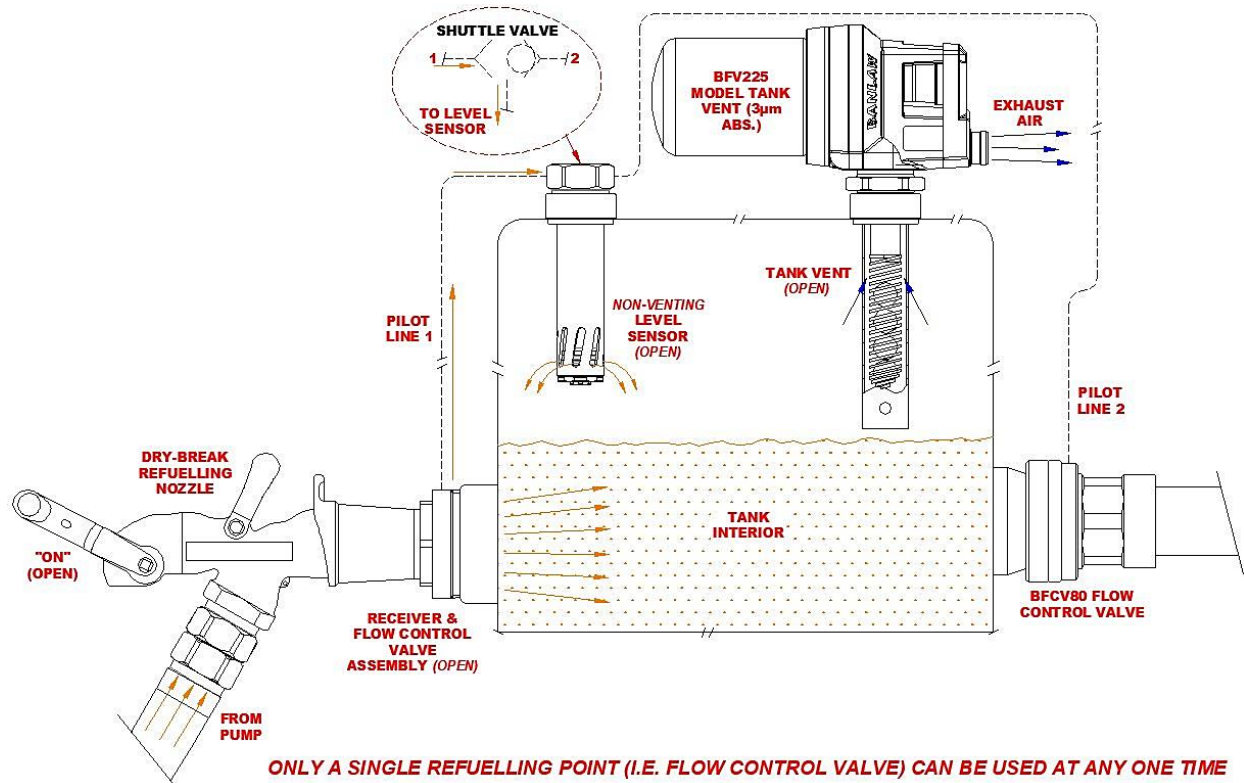
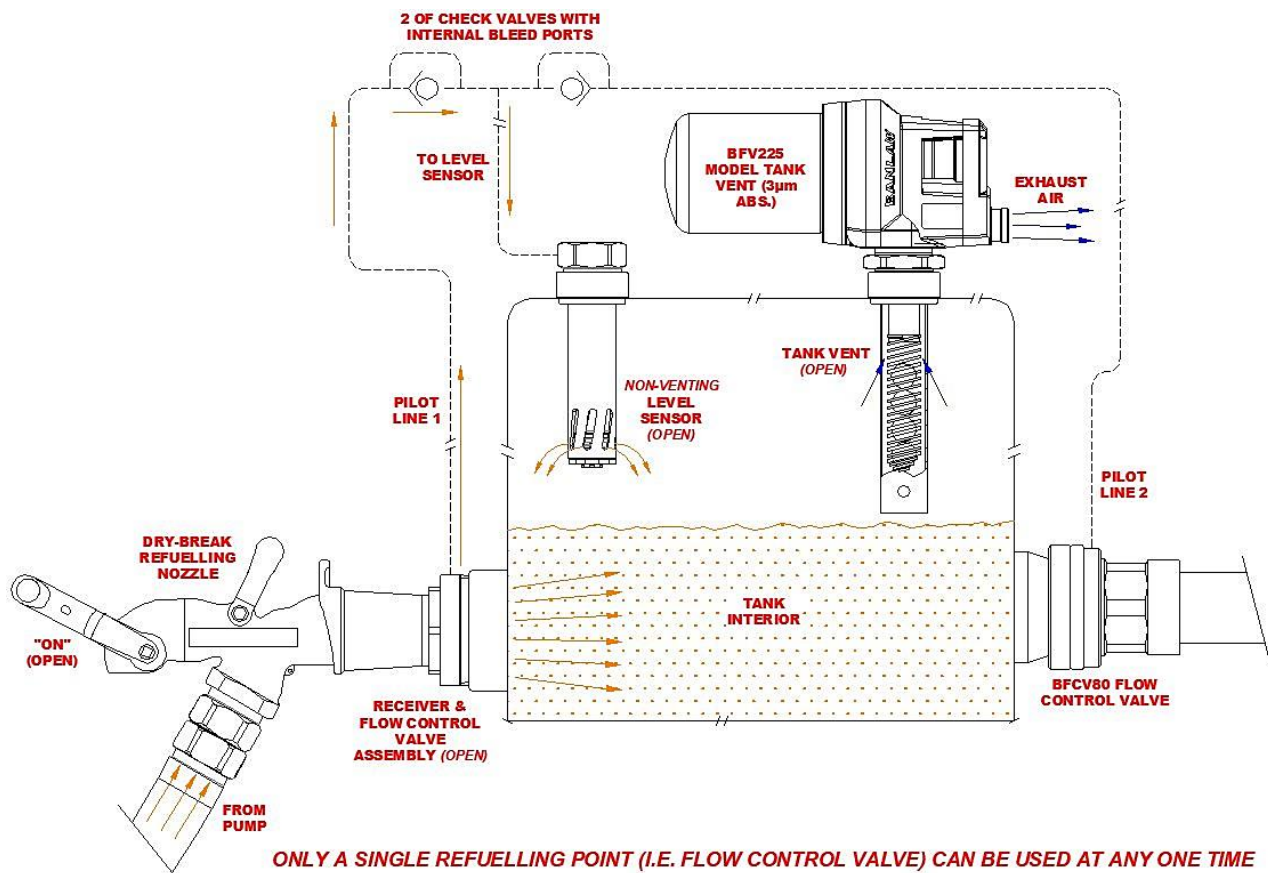

Figure 9 - Example of FillSafe Zero Install with Dual Flow Control Valves - Tank **Filling**
Figure 15 - Common BLS Level Sensor with Dual Flow Control Valves (2 Fill Points)
The example systems in Figure 7 and Figure 8 will suit either a BLS#### or BLS####B model Level Sensor, provided the unused Pilot Line port on the BLS#### assembly is plugged (sealed). Figure 9 now illustrates a FillSafe Zero system incorporating 2 separate Flow Control Valves connected to a **common** BLS#### Level Sensor. The shuttle valve within the Level Sensor will close the Pilot Line port connected to the Control Valve which is not in use. Both refuelling points (i.e. both Flow Control Valves) **cannot be used simultaneously**. Figure 9 also provides a basic schematic of the shuttle valve within the BLS#### model Level Sensor, whereas is shown, Pilot Line 1 connected to the Flow Control Valve in use is open to the Level Sensor, whilst Pilot Line 2 is closed as it is connected to the Flow Control Valve not in use. As with all installations, the length of the Level Sensor must be pre-selected to ensure its closure (shut-off level) is below the closure level of the vent(s) fitted to the tank.
For tanks with dual (2) refuelling lines, a single (common) BLS (e.g. BLS100) series Level Sensor can be configured as per Figure 9. The shuttle valve within the "cap" of the BLS series Level Sensors allows *either* (not both simultaneously) refuelling point to be used. This same configuration is not possible with the BLS###B series Level Sensors (e.g. BLS100B) as they do not incorporate the shuttle valve, but instead, separate check valves may be used to allow a "common" BLS###B Level Sensor to be connected to 2 Flow Control Valves as per Figure 15.